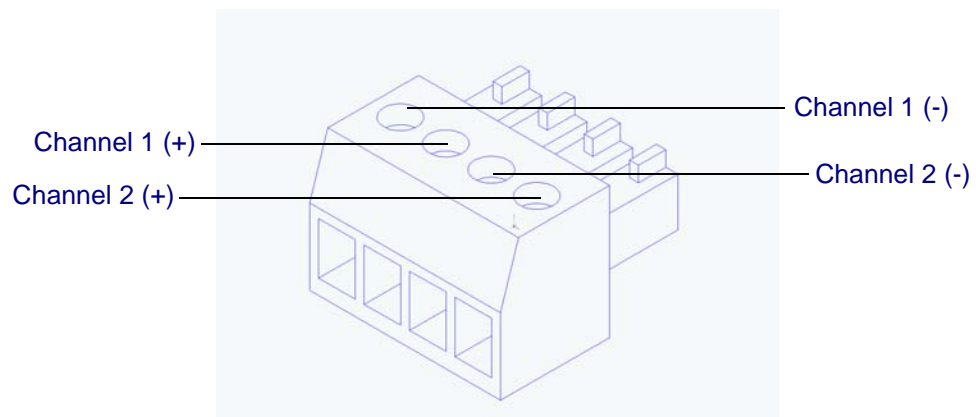

Fig 3-2 : 4-20 mA Connector Header
- 3) Connect the 4-20 mA output cables to the supplied header, as shown in Figure 3-2. Insert the connector into the mating receptacle on the bottom of the unit.